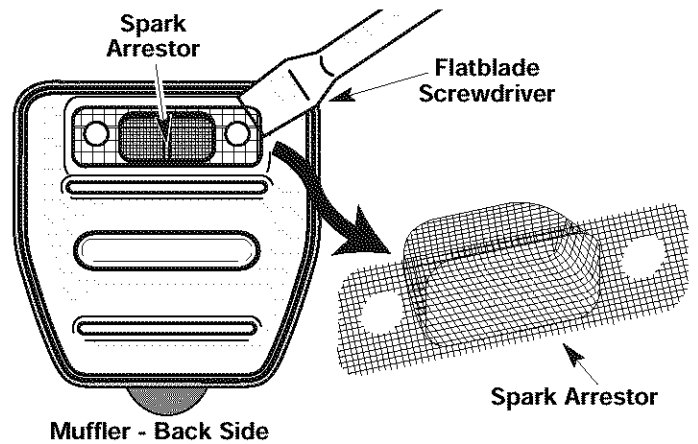

Fig. 40
4. Using a small flatblade screwdriver, carefully pry up the spark arrester from the recessed hole (Fig. 40). Remove the spark arrester from muffler.
5. Clean the spark arrester with a wire brush. Replace it if it is damaged or if it is impossible to clean thoroughly (Fig. 40).